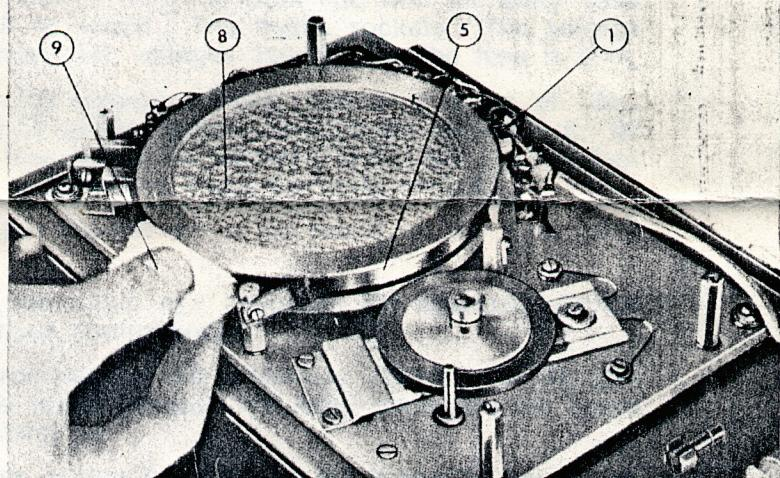

Fig. 2
Fig. 2 illustrates the best position in which to carry out this operation. It is necessary whenever a black strip is formed on the magnetic band and reduces the performance of the equipment. Use a piece of cloth, the special BINSON oil and ordinary petrol.
1. With the disc (8) rotating, insert a strip of paper as above (11) between the magnetic band (5) and one of the five heads (10) moving the paper vertically and horizontally several times. Remove the paper and tear off the dirty piece used; repeat the operation until the paper comes out clean.
2. Carry out the same operation for each head and for the two cleaning brushes already seen in Fig. 2. Make sure that the strip of paper passes easily between the erasing magnet (0) and the magnetic band (5).